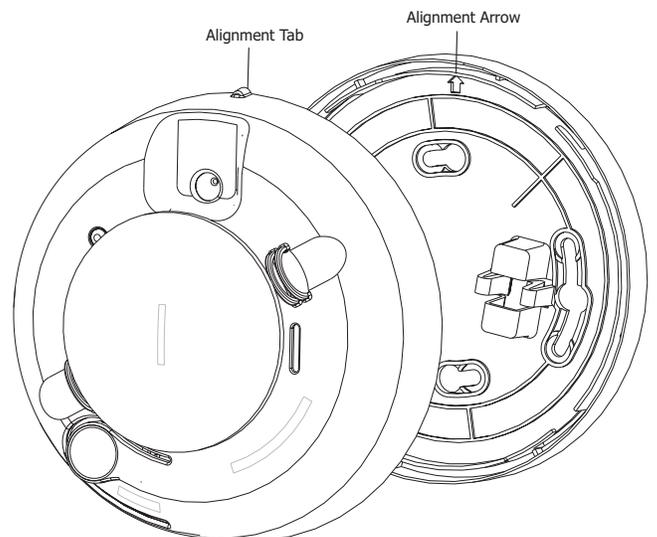

Figure 4: Smoke Detector-to-Base Alignment
7. Line up the raised tab on the lip of the detector with the slot on the lip of the mounting base. See Figure 4.
1. Line up the raised alignment tab on the lip of the smoke detector with arrow on the mounting base. See Figure 4.